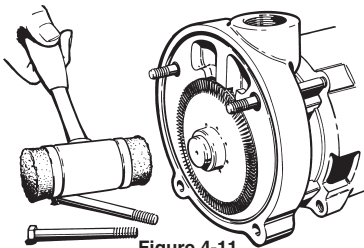

Figure 4-11
- Remove the impeller(#11), refer to Figure 4-11. This is easily done by setting the motor on end. The impeller is a slip fit and under normal conditions, can be removed by hand or by gently tapping on the end of the shaft with a mallet. Striking the shaft too hard could damage the seat, rotating element, or the motor. After removing